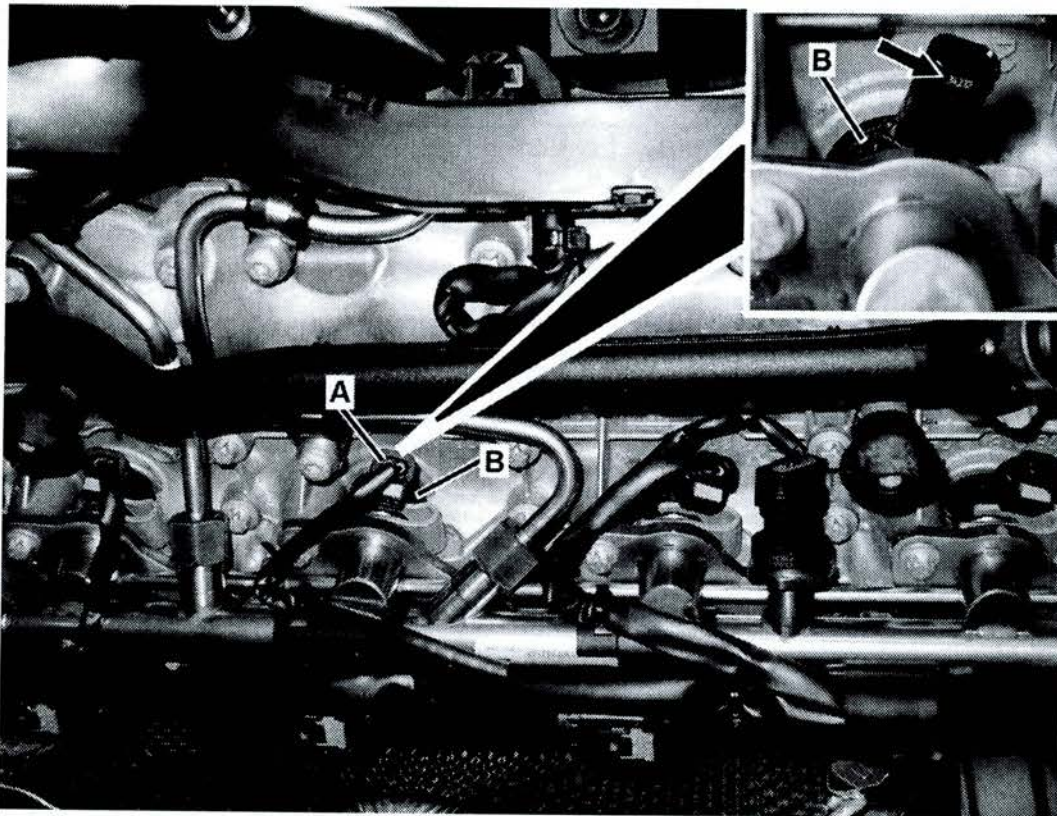

Figure 2
- Injector code (arrow, Figure 2) can be read by disconnecting engine harness connector (A) from injector (B).